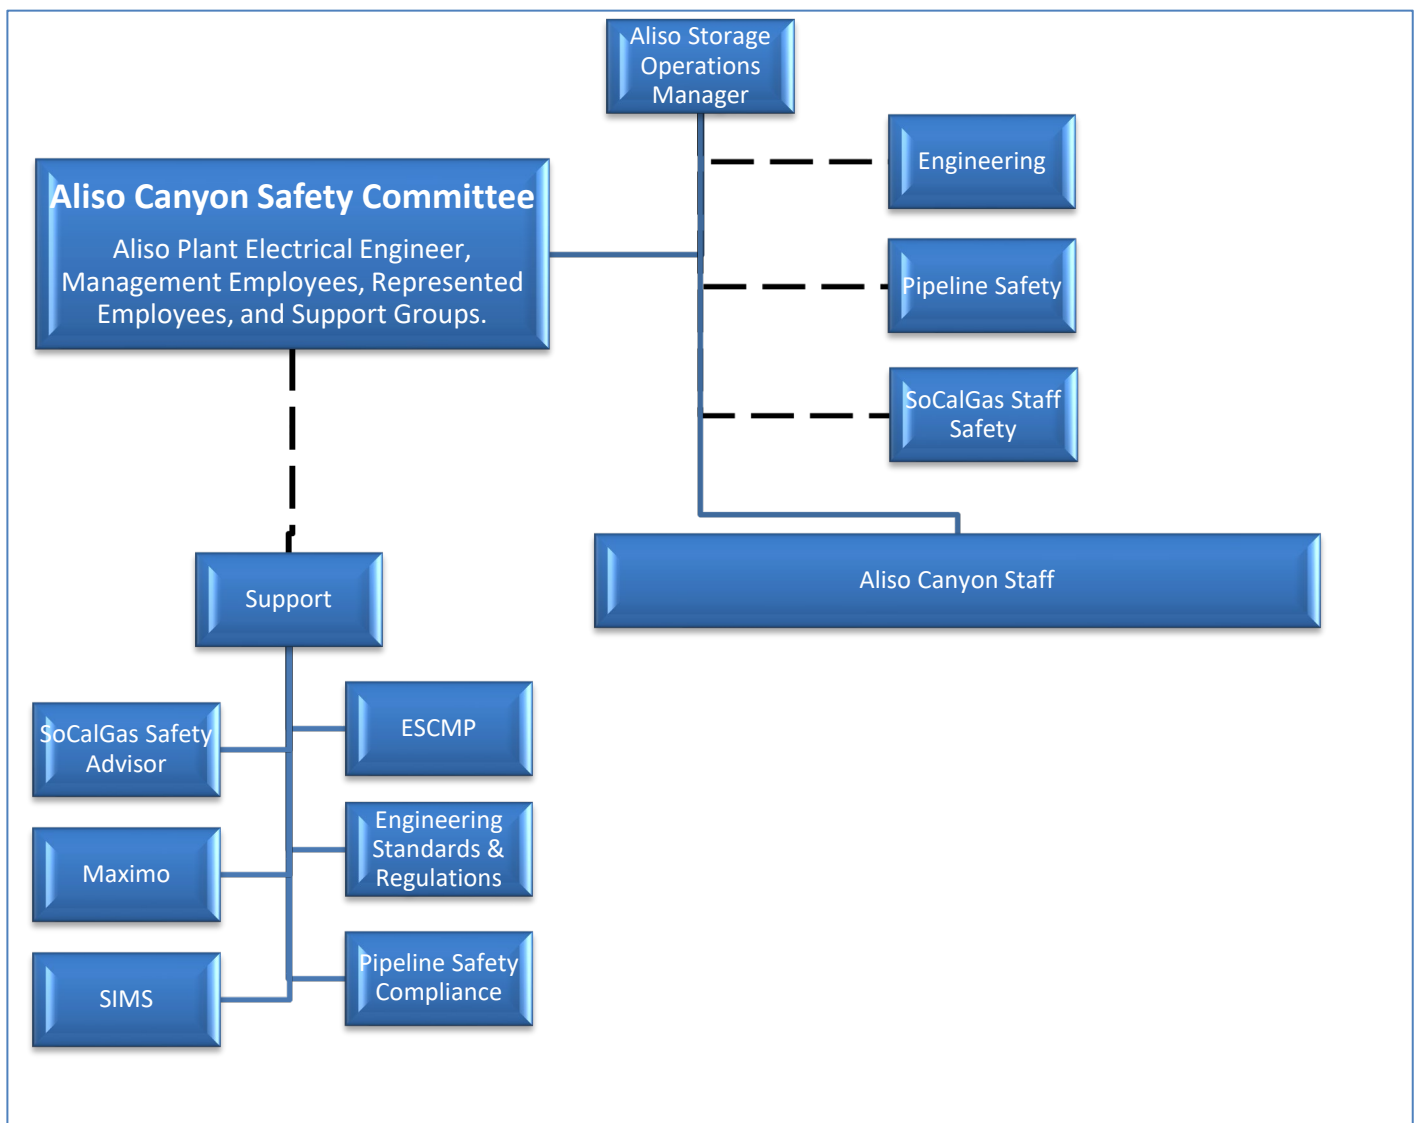

Figure 2 (Safety Committee Organizational Chart)
5.1.1 Safety Committee Organizational Chart; Figure 2